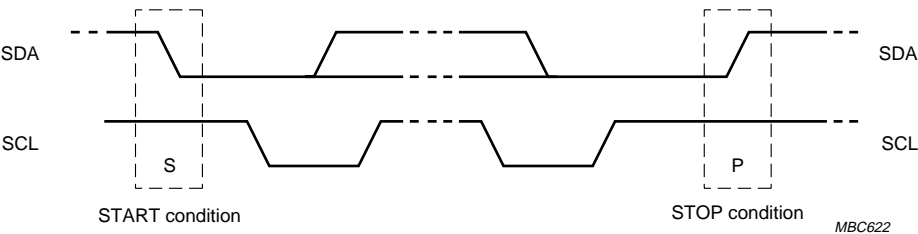

Fig.11 Definition of START and STOP conditions.
Both data and clock lines remain HIGH when the bus is not busy. A HIGH-to-LOW transition of the data line, while the clock is HIGH is defined as the START condition (S). A LOW-to-HIGH transition of the data line while the clock is HIGH is defined as the STOP condition (P). The START and STOP conditions are illustrated in Fig.11.